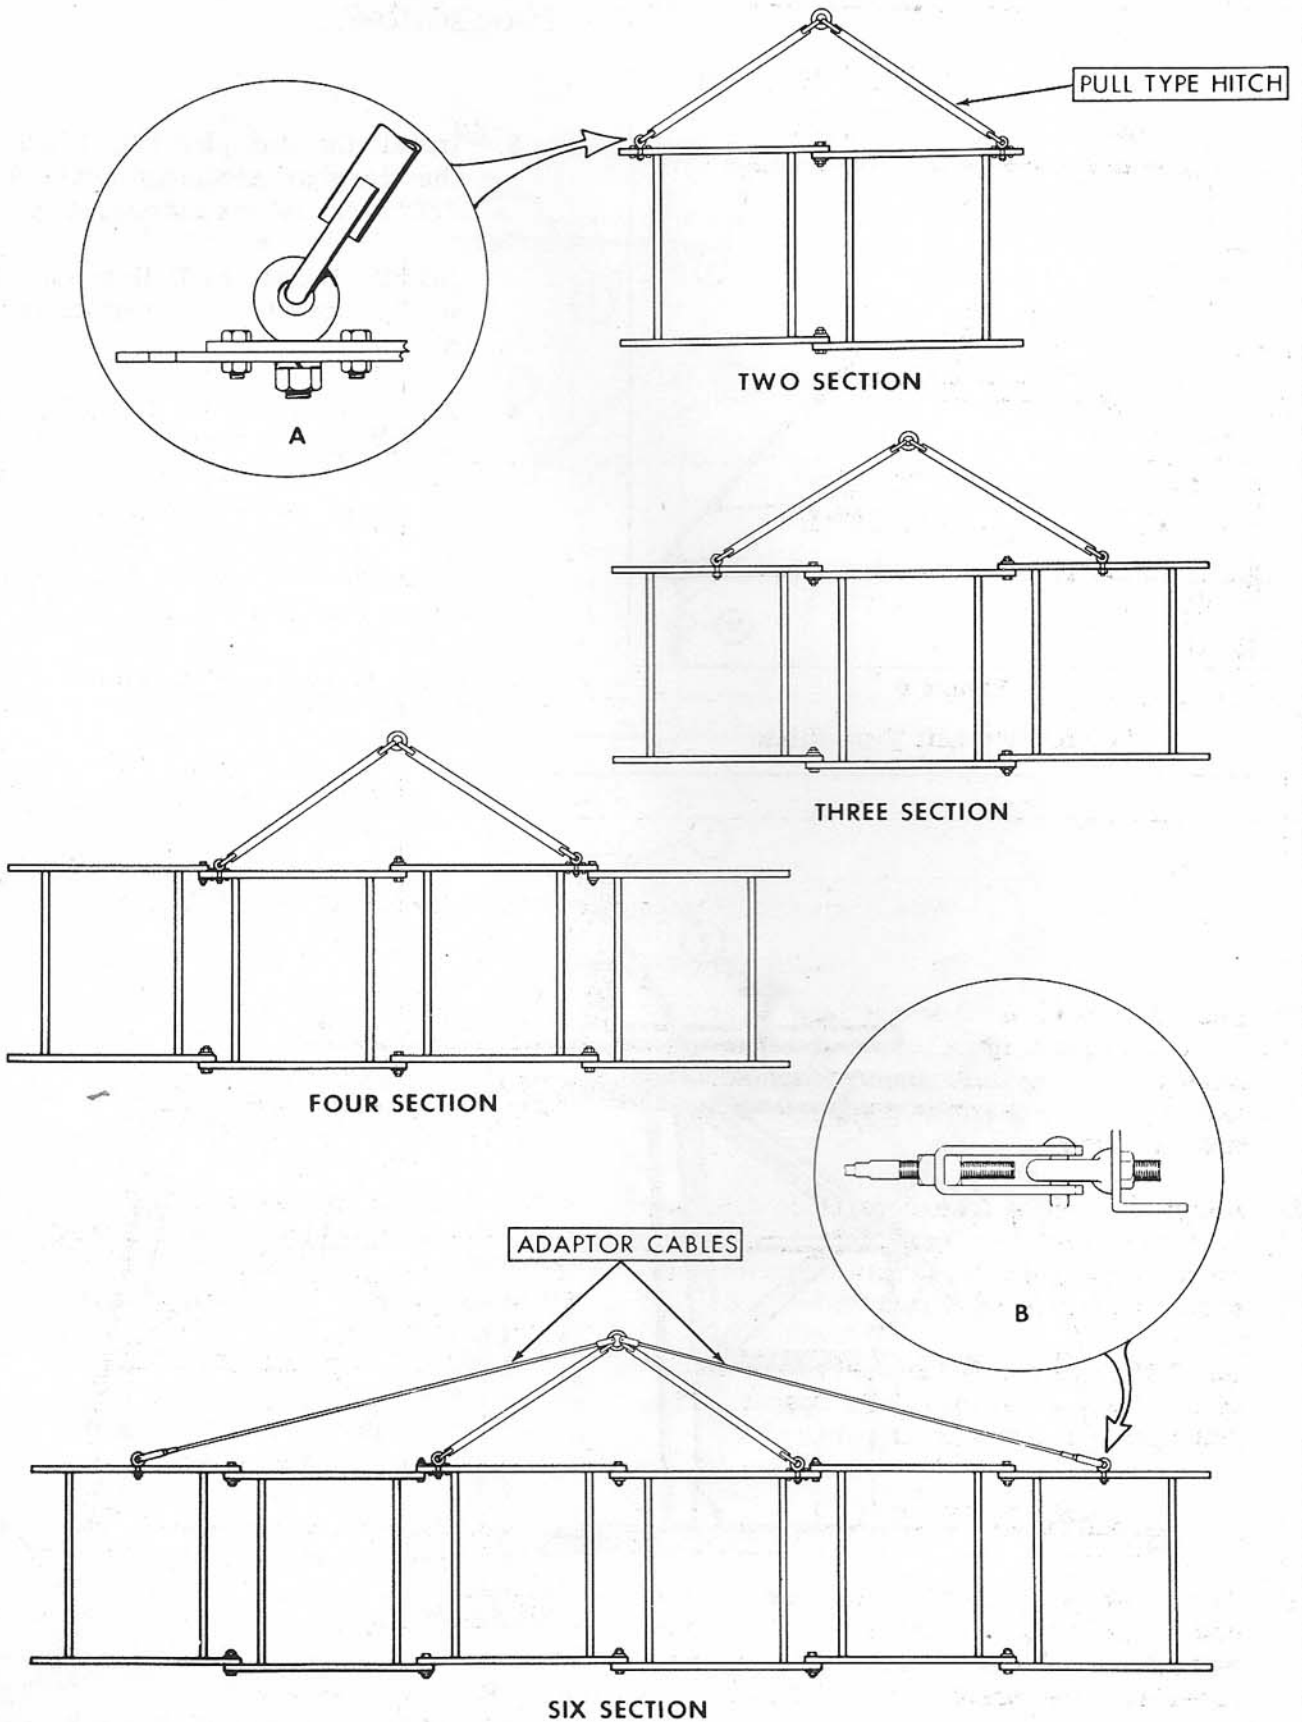

Figure 5
Six Section Pull Type Hitch Adapter: The Six Section Hitch Adapter Cables may be adjusted for tension by means of the square nuts on the cable ends. See insert "B", Figure 5.
1. Attach the pull type hitch assembly to the proper sections as illustrated in Figure 5, with the eye bolts, lockwashers and nuts provided. See Insert "A" for details.
hitch and the outer sections as shown in Figure 5. See Insert "B" for details.